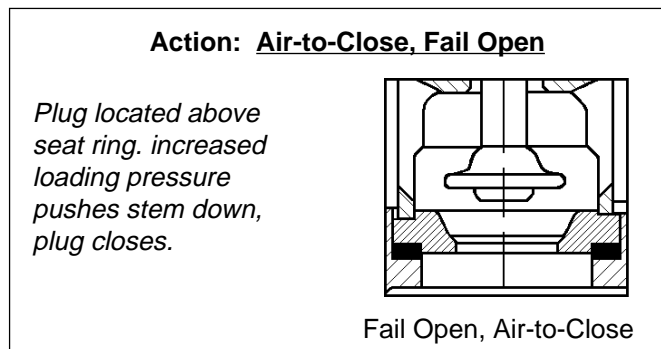

Figure 5: Seat and Plug Assembly, ATC-FO
For ATC-FO action units, place seat ring (3) into the body (1) cavity in proper orientation. Insert the plug and stem assembly (4) through bonnet (2) until it appears at top side of the bonnet (2). See Figure 5.